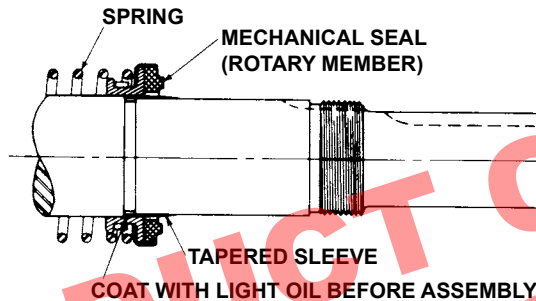

FIGURE 9
6. Sealing faces on mechanical seals should not be touched with anything but fingers or a clean cloth. A tapered sleeve is available, at extra cost, for Q, QS and M pumps from Viking Pump for seal installation on shaft. **Refer to Figure 9.**
7. Install rotating member of seal. Slide spring over shaft into seal chamber and onto set collar pilot. Center spring adapter (Q, QS and M size only) against back of metal retainer so spring will push against adapter and not work itself over back of mechanical seal. Place tapered sleeve on shaft. **Refer to Figure 9.** Apply a liberal coating of SAE-30 non-detergent oil to large diameter portion of shaft, tapered sleeve and to inside diameter of seal rubber parts. Start rotary member, carbon face out, onto shaft and push along shaft until spring is centered against adapter.